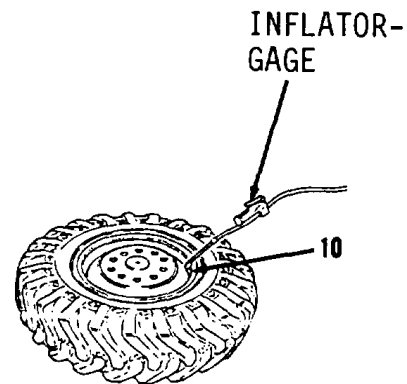

Figure 7-6.
10. Check to see that valve core is still not installed, then attach a pneumatic tire inflator-gage to valve stem (10, Figure 7-6).